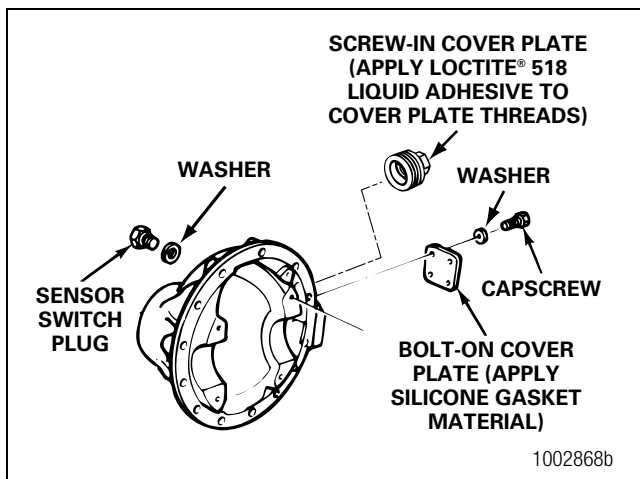

Figure 6.33
1. Install the washer and plug into the hole for the sensor switch. Tighten the plug from 45-55 lb-ft (60-74 N•m). Figure 6.33.
3. Install the four washers and capscrews. Tighten the capscrews to 7.4-8.9 lb-ft (10-12 N•m). Figure 6.33.